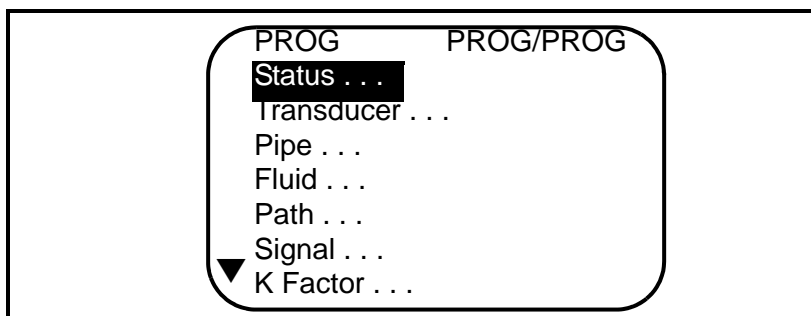

Figure 5: The PROG Menu
3. Use the [▲] and [▼] keys to scroll to the desired channel or to 2-path Averaging and press [ENT]. The screen appears similar to *Figure 5* below.